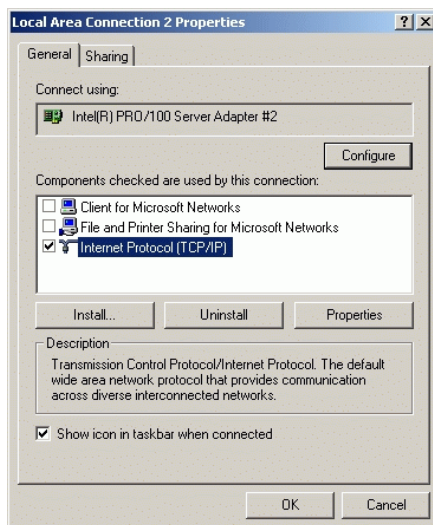

Figure 2-55 Local Area Connection 2 Properties Dialog Box
4. Click *Properties*. The *Local Area Connection 2 Properties* dialog box displays (Figure 2-55).